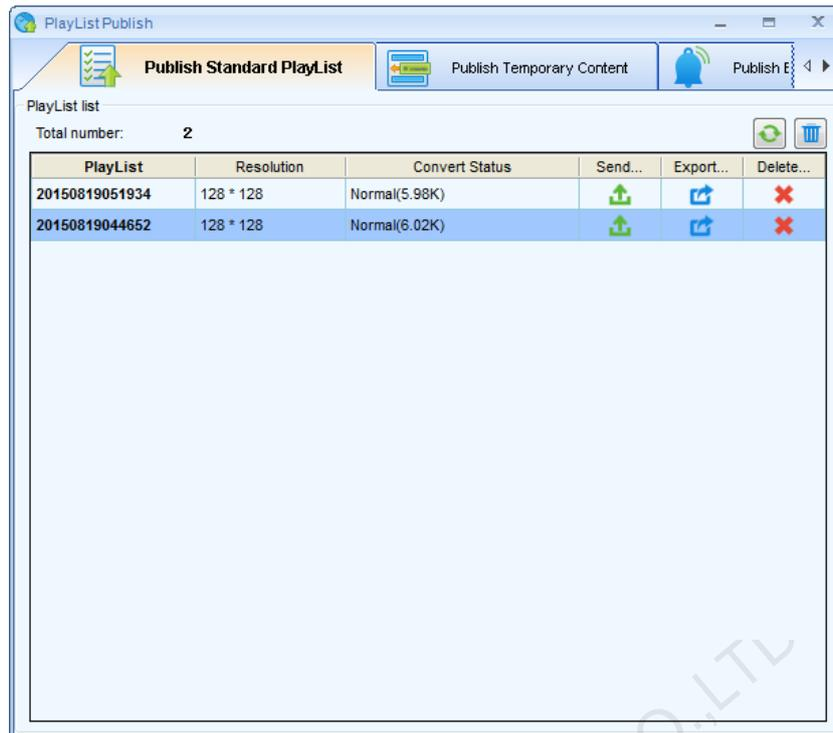

Fig. 9-63 Play-Program conversion result
- 1) Press export button in Fig. 9-63 to enter offline export settings page.
Return to Play-Program publish main interface, as shown in figure 9-63. Click the Publish Temporary Content enter the emergency insert play page;